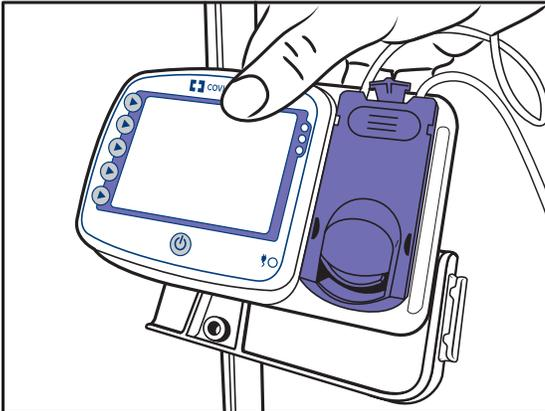
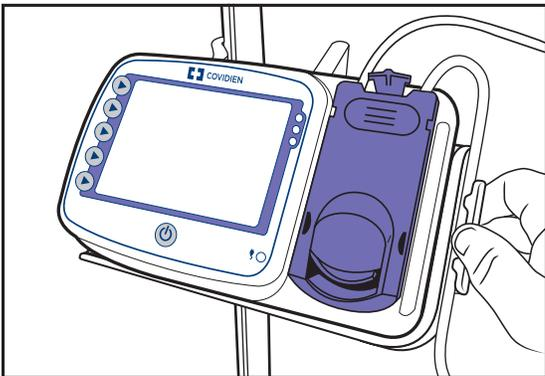

Fig. 5
Fig. 6
Hold the pump and place the back face of the pump against the flat portion of the pole clamp latch plate. Slide the pump to the right until the pump hits the latch plate guide. Keeping contact with the guide, slide the pump downward until you hear a positive “click”. This indicates that the pump has been properly seated. To remove the pump, gently pull upward on the pump until it “pops” upward off the latch plate (Fig 5).
Follow the same procedure as above for attachment of the WCH to the pole clamp. The pole clamp is designed to work universally with either the pump or the WCH (Fig. 5 and Fig. 6).
3. Press the tubing into the tube guide creating a loop above the pump (see fig. 6).